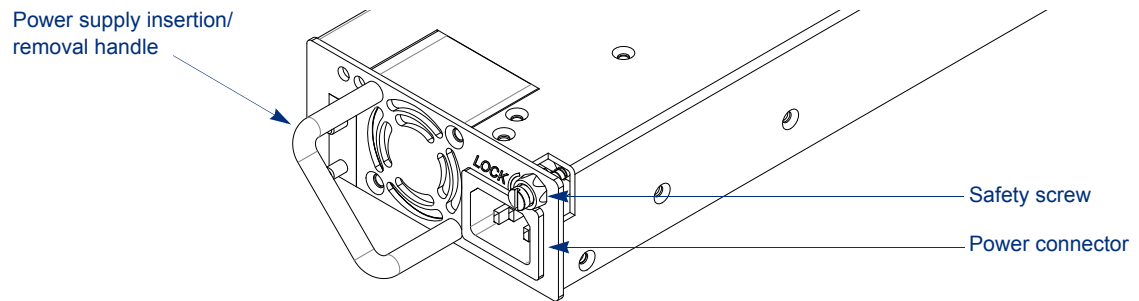

Figure 288. Power supply handle (AC power supply)
5. Firmly grasp the power supply by the handle, shown in Figure 288.